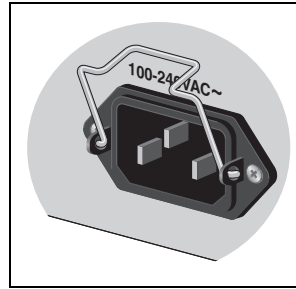

Figure 31. Power Cord Retaining Clip in the Up Position
1. Position the power cord retaining clip in the up position, as shown in Figure 31.